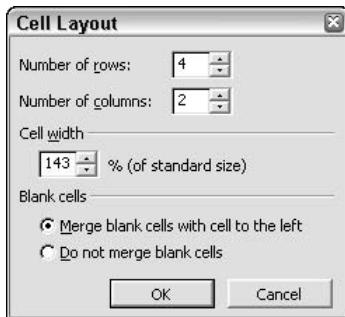

Figure 8-22: Use this dialog box to change the number of cells in a node.
9. To increase or decrease the number of cells in the node, click the Cell Layout button to display the dialog box that is shown in Figure 8-22. From this dialog box, specify the number of cells for all nodes. After you click OK, Project redisplay the Data Template Definition dialog box, with the appropriate number of cells available for formatting.